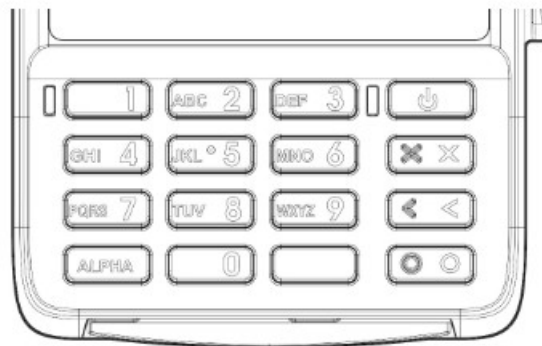

Figure 6
After inserting the chip card, Press the numeric key as below keypad (Figure 6) to enter the desirable numbers. Press Cancel (X) key to terminate any current function and press the Enter (O) key to confirm a value or an option.